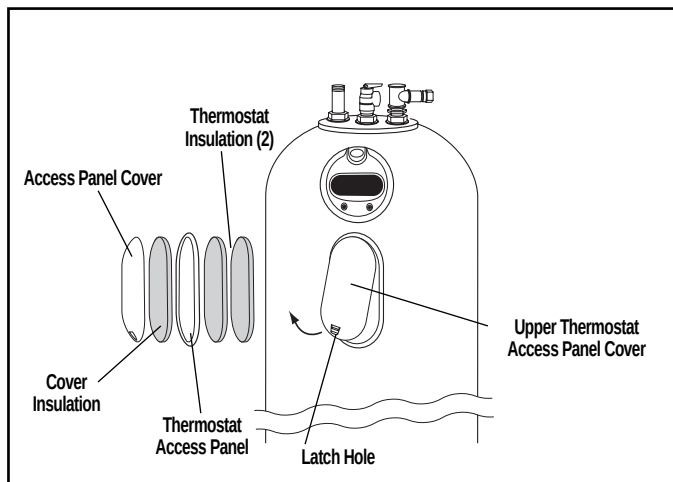
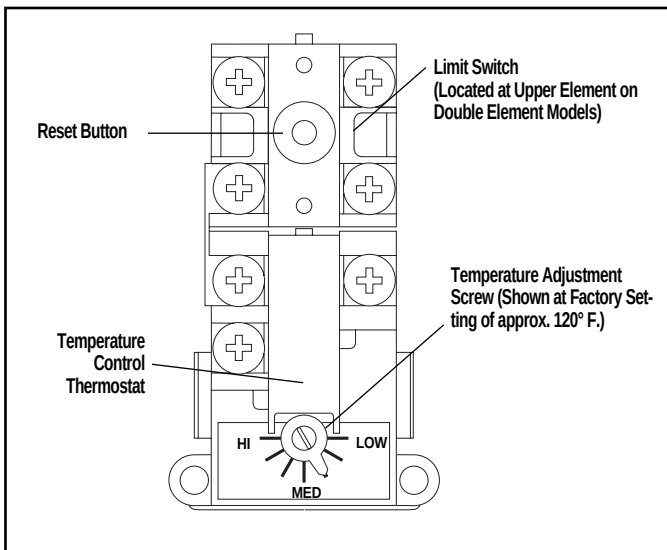

Figure 10 — Removing Upper Thermostat Access panel.
Figure 14 — Upper Thermostat & High Limit Switch
- Remove the upper thermostat snap-in access panel cover. Insert finger into latch hole on the bottom of the cover, and push up to release the latch. Then pull forward to remove the cover and insulation. (See figure 10.)
To reset High Limit Switch, **turn off** power to water heater, remove upper jacket access panel and insulation, and the access panel and insulation to expose the Thermostat and High Limit Switch. (Refer to Figure 10.) **The plastic personnel protector SHOULD NOT be removed.** Press the "RESET" button (see Figure 14). Replace insulation and jacket access panel(s) before turning on power to water heater.